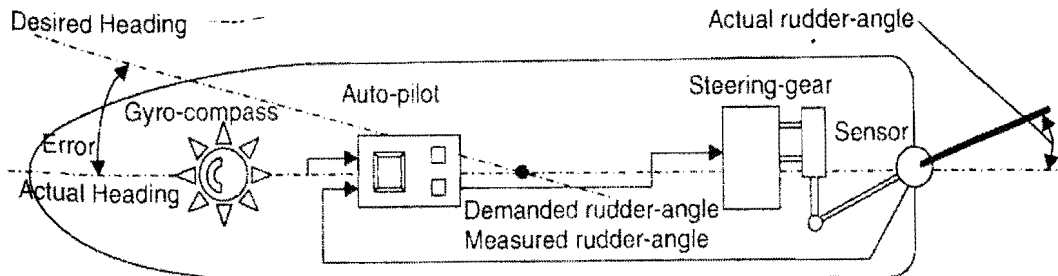

Figure 2: Ship Autopilot control system
- (b) A ship autopilot is designed to maintain a vessel on a set heading while being subjected to a series of disturbances such as wind, waves and current as shown in the Figure 2. The actual heading is measured by a gyro-compass (or magnetic compass in a smaller vessel), and compared with the desired heading, dialled into the autopilot by the ship’s master. The autopilot, or controller, computes the demanded rudder angle and sends a control signal to the steering gear. The actual rudder angle is monitored by a rudder angle sensor and compared with the demanded rudder angle to form a